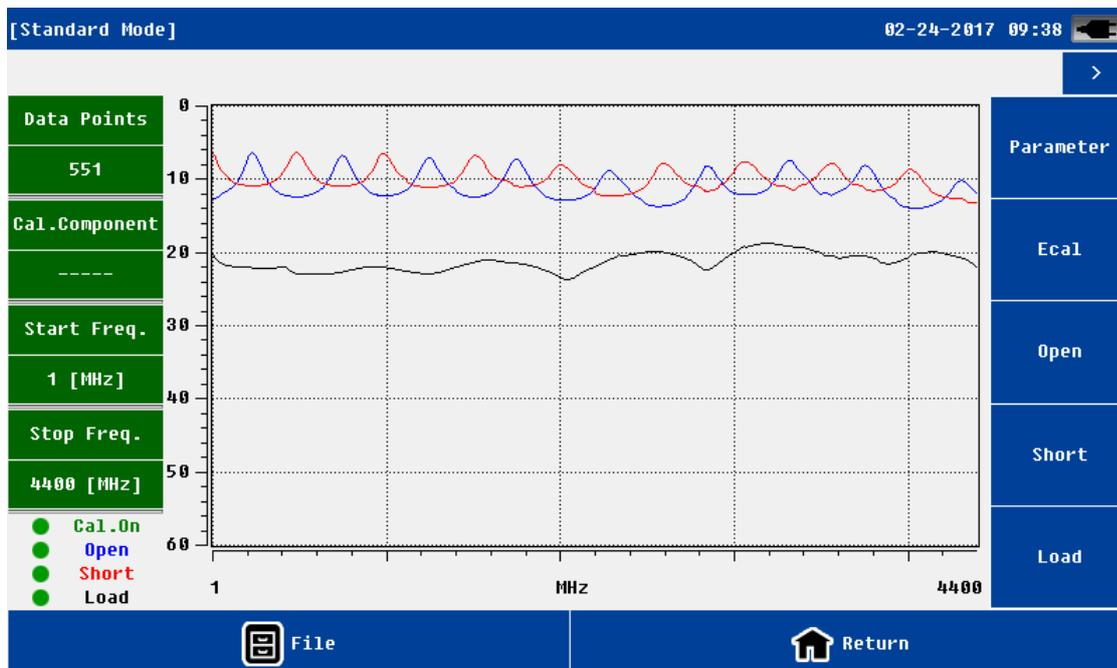

Fig.4.6 Calibration Result
Click OK, and connect the electronic calibrator; then click Ecal, result as shown in Fig. 4.6, electronic calibration will be finished.
- If all calibration of three loads completed, the green "cal on" will shown at the lower left corner of the screen, as shown in Fig.4.6.